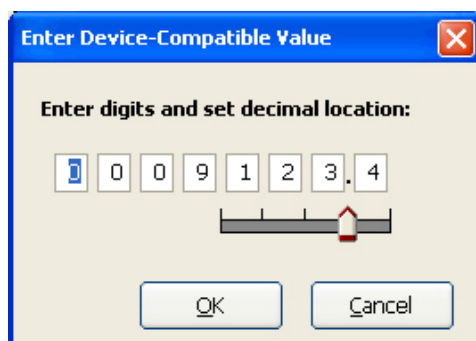

Figure 4.29—Data-entry screen for 4-20 mA low and high values
2. Click on the pencil icon next to the Low Flow Rate field to launch a data-entry window (Figure 4.29) and enter the “low” or “zero” flow rate value that will produce a 4-mA output. Adjust the decimal position, if necessary, using the slide bar. A flow rate less than or equal to this minimum setpoint will result in an output of 4 mA.